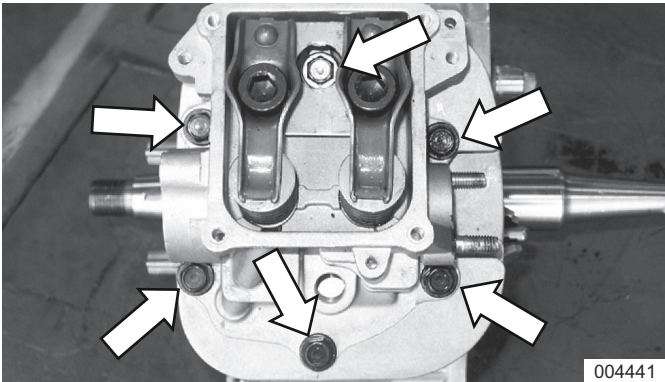

Figure 7-4. Remove Cylinder Head
4. See Figure 7-4. Remove six head bolts and cylinder head. Discard gasket.